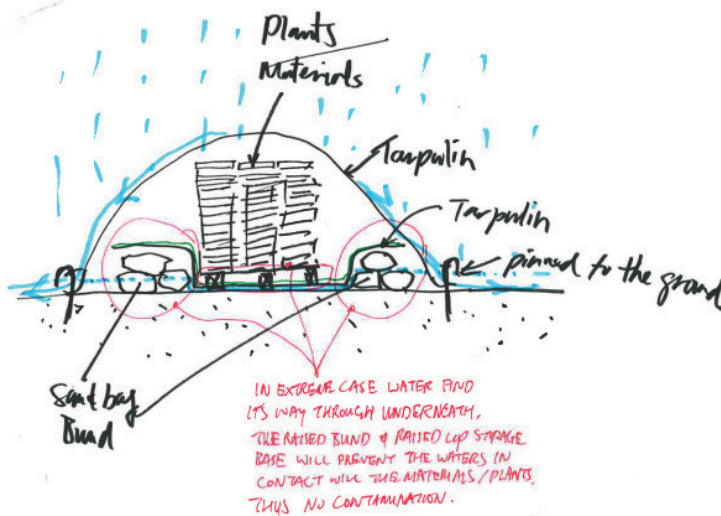
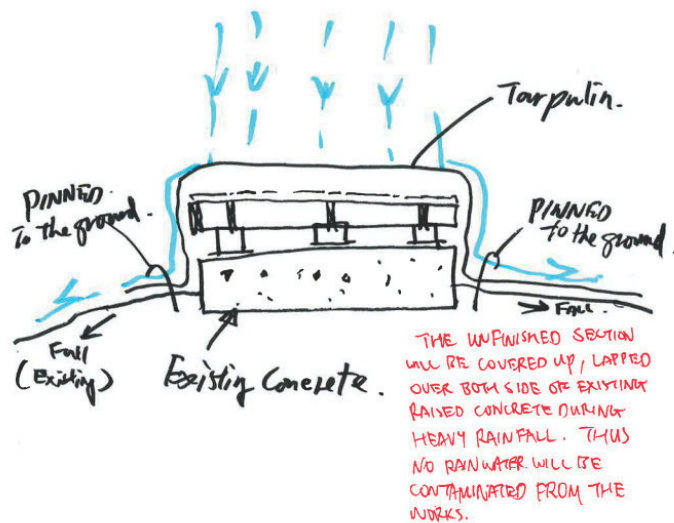

Fig.1
Fig. 2
11.7 - Precautionary measures during heavy rainfall - all construction works are dry fixed only, the construction requires no excavation works and wet trades will not be involved, therefore no muddy water will be generated and no pollution to rainwater during heavy rainfall. Securely fasten up onsite timber planks to prevent wash-away during heavy rainfall. Storage and works area located adjacent to Education Centre will be bunded and covered in tarpaulin to kept rainwater out. Materials and plants will be covered up in tarpaulin and raised off ground to further prevent rainwater contaminated during heavy rainfall (see fig.1). Works area will be covered up in tarpaulin, lapping over both side of existing concrete footpath (see fig.2).